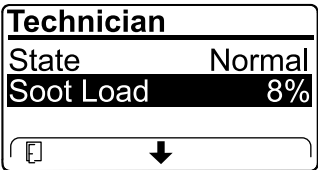

Figure 67
- View the soot load which is measured as the percentage of soot in the DPF(Figure 67); refer to the soot-load table.